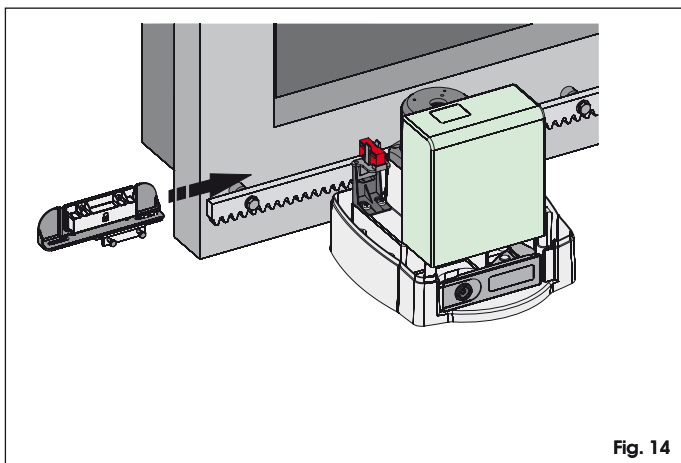

Fig. 14
4. Allow the magnet, with the padlock open, to slide on the rack in opening direction - see figure 14. As soon as the LED on the board, referring to the opening limit-switch, goes OFF, take the magnet forward by another 10 mm and fasten it provisionally with the appropriate screws.